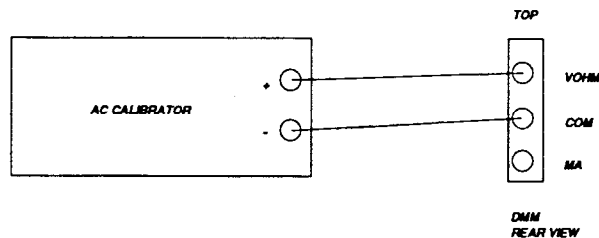

Figure 7-2. Connection of AC Calibrator to PCIP-DMM/A
2. Connect the calibrator to the PCIP-DMM/A boards as shown in Figure 7-2.